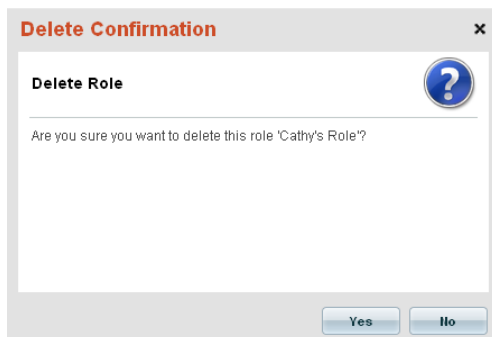

FIG. 325 Delete Confirmation dialog - Role
3. The system will prompt you to verify this action before the Role is deleted, via the *Delete Confirmation* dialog (FIG. 325):